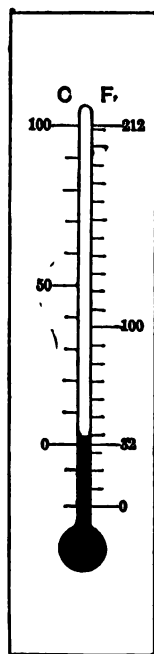

FIG. 8.
M. As many equal divisions are marked below the zero-point and above the 100-point as there is room for. According as the thermometer is required for high or low temperatures, more or less mercury is put in, so that there is enough space over on the required part (Fig. 8).